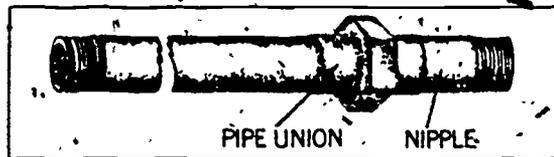

Figure 2-42. Union and nipple.
a. **Repairing a leaking joint.** If a leak develops in a joint, tighten the pipe in the fitting at this point. This cannot be done easily, unless the section of pipe was assembled with a union like the one shown in figure 2-42. If there is a union in the pipe, loosen it and screw the pipe into the fitting a few turns, then retighten the union. This should stop the leak. If the pipe is not fitted with a union, you will have to cut the pipe in order to tighten the joint. But this is not all. You will have to install a union where you cut the pipe. To do this, cut the pipe with a hand-operated pipe cutter or hacksaw within 5 inches of the fitting, if possible, so that a short nipple can be used. Now, insert a new section of pipe if the system is old, or rethread the section if the system is new. Put the section and nipple together with a union after the leaking joint is tightened.